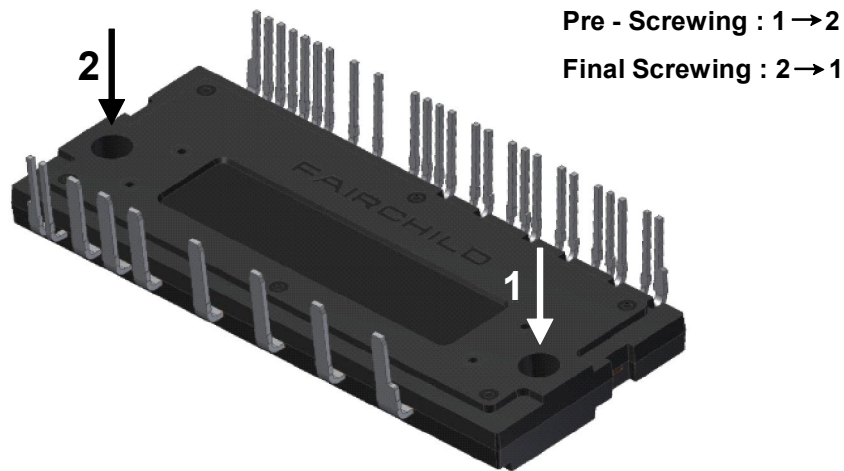

Figure 10. Mounting Screws Torque Order
| | See Figure 10 | Recommended 10.1 kg • cm | 9.1 | 10.1 | 15.1 | kg • cm |
- 13. Avoid one-sided tightening stress. Figure 10 shows the recommended torque order for the mounting screws. Uneven mounting can cause the DBC substrate of package to be damaged. The pre-screwing torque is set to 20 ~ 30% of maximum torque rating.